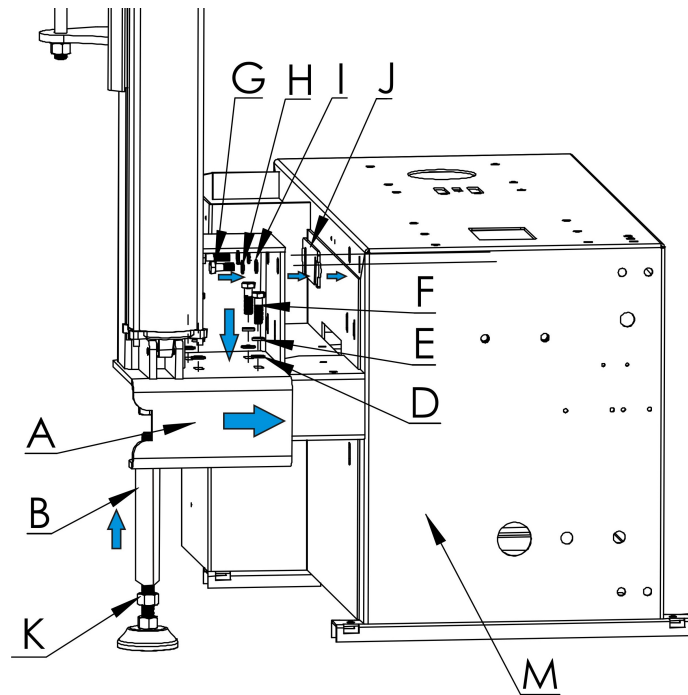

Fig. 5
Then tighten all the 6 screws.(Fig. 5)
- Adjust the screw K to make the support base on the ground and tighten.(Fig. 5)